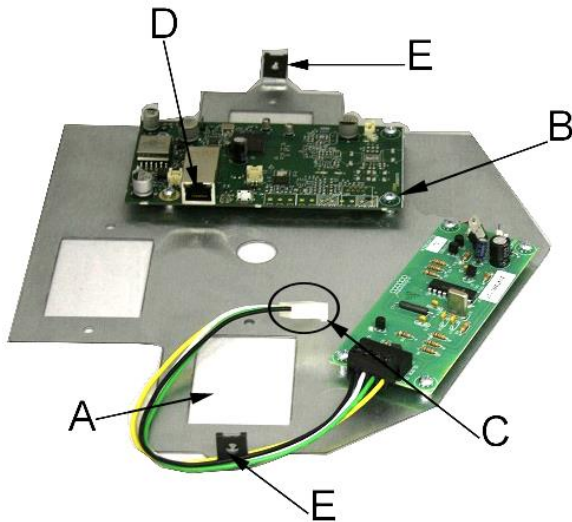

Figure 3. Mounting/Connections
Connect the attached wire assembly from the Lay-in Speaker to the Speaker screw connections on the clock circuit board after mounting the clock. (Figures 3 & 4)
The VIP-4122-A12 has one RJ-45 network connector on the clock circuit board (D) in Figure 3. Connect a standard Ethernet patch cable from the VIP-4122-A12 into an Ethernet switch. If a PoE switch is not available, a PoE mid-span injector may be used to supply power to the clock and speaker.